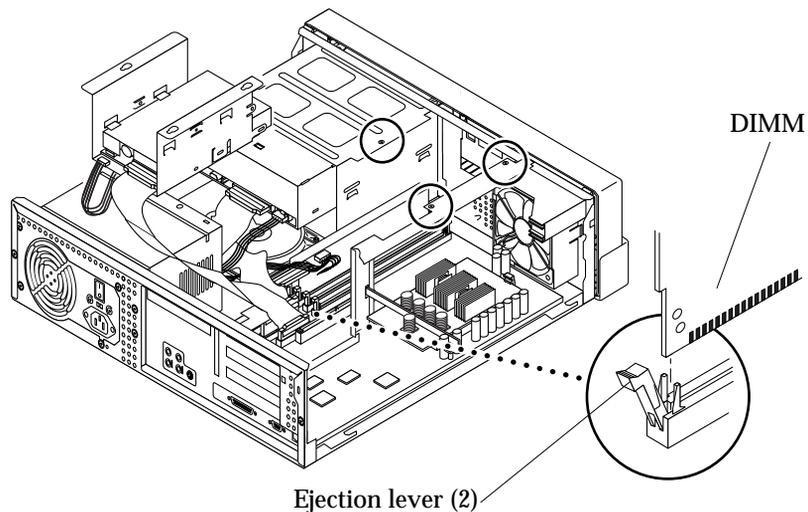
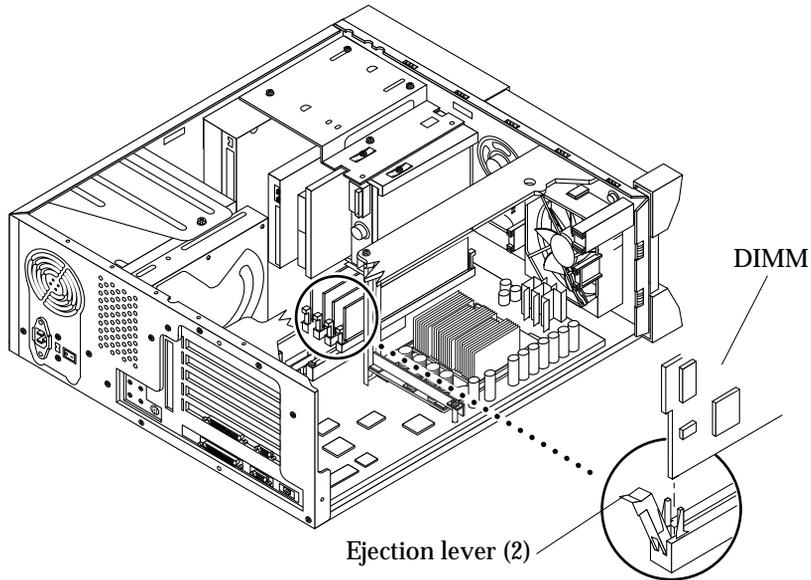

FIGURE 10-9 Removing and Replacing a DIMM (Ultra 5)
FIGURE 10-10 Removing and Replacing a DIMM (Ultra 10)
6. Push the ejection levers away from the DIMM (FIGURE 10-9 or FIGURE 10-10).
2. Install the DIMM as follows: (FIGURE 10-9 or FIGURE 10-10)